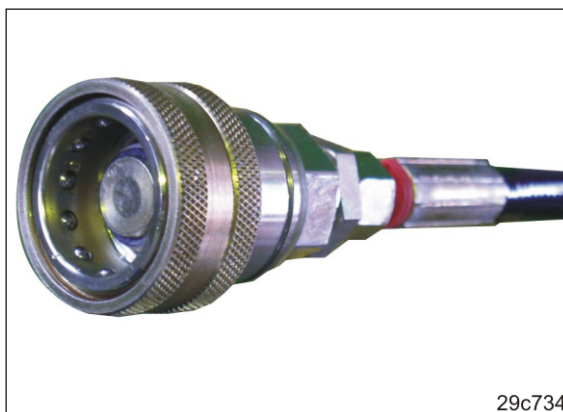

Fig. 126
4. Clean the hydraulic socket (Fig. 126) and the tractor-side hydraulic plug.